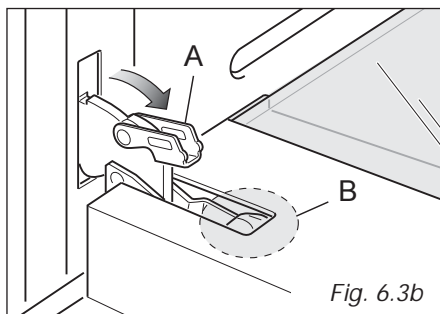
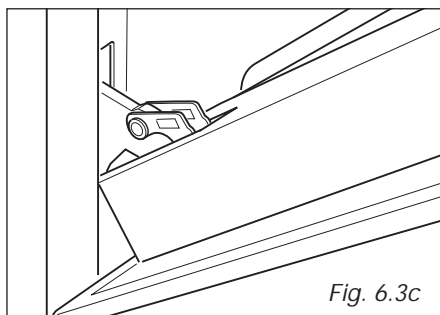

Fig. 6.3b
Fig. 6.3c
- Open the lever **A** completely on the left and right hinges (fig. 6.3b).
- Gently close the door (fig. 6.3c) until left and right hinge levers **A** are hooked to part **B** of the door (fig. 6.3b).